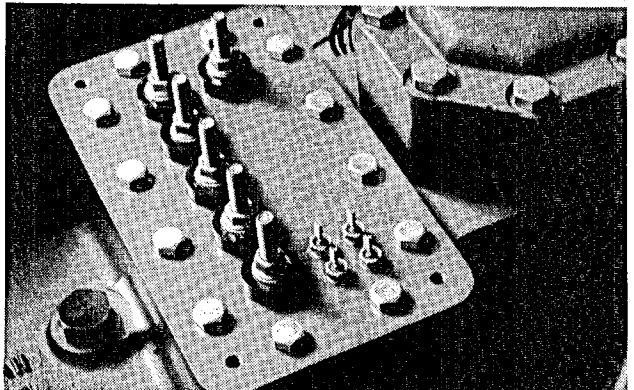

Figure 33
2. Disassemble the hex nuts, washers and buss bars from the top of the terminal studs (Figure 33).